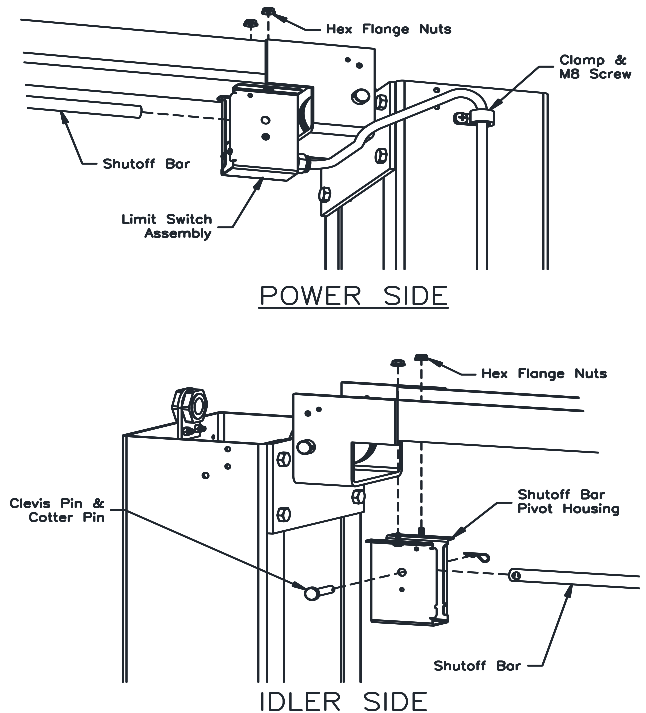

Fig. 3 - Limit Switch
- 12) Install Overhead Limit Switch under the Overhead Assembly on the Power Side. Route cable around outside of column as shown in **Fig. 3**.